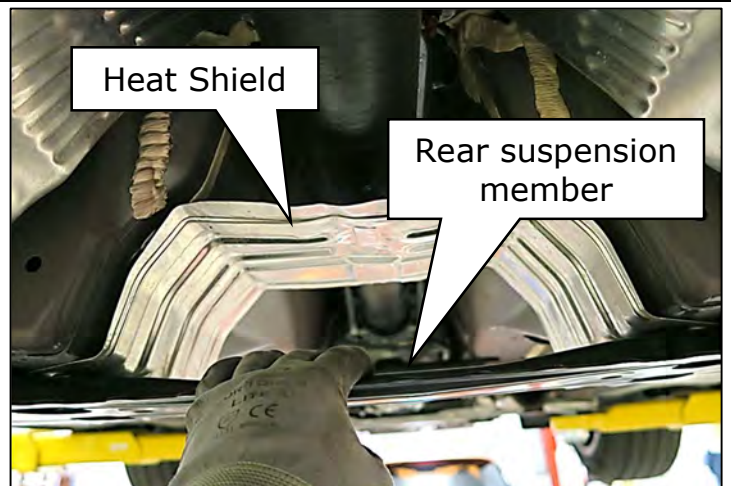

Figure 105
- Pull downward on the rear suspension member and slide the heat shield into position as shown in Figure 105